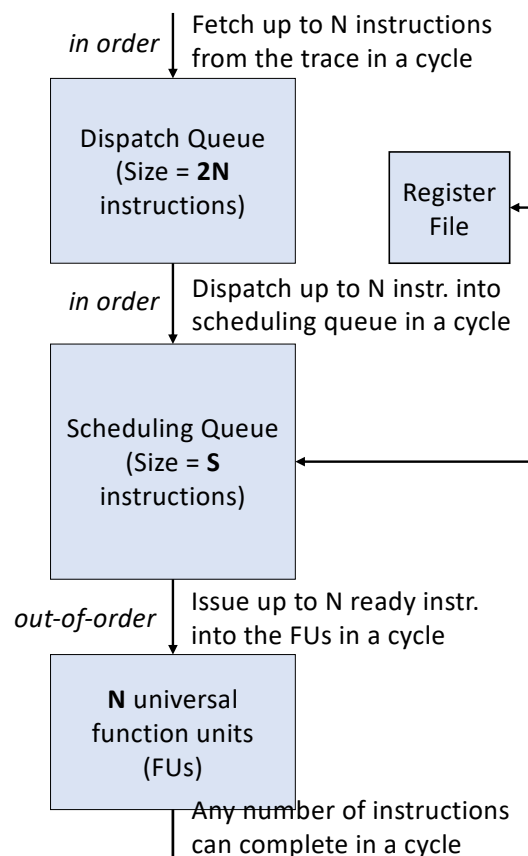

Figure 1. Overview of the superscalar microarchitecture to be modeled.
The microarchitecture is N-way superscalar. This means that up to N instructions can be fetched, dispatched, and issued each cycle, as shown in Fig. 1. However, in a given cycle, fewer than N instructions may be fetched, dispatched, or issued, due structural hazards or data dependences.
- **dispatch_list**: This contains a list of instructions in either the IF or ID state. The *dispatch_list* models the Dispatch Queue in Fig. 1. By including both the IF and ID states, we don't need to separately model the pipeline registers of the fetch and the dispatch stages.
- **issue_list**: This contains a list of instructions in the IS state (waiting for operands or available issue bandwidth). The *issue_list* models the Scheduling Queue in Fig. 1.
- **execute_list**: This contains a list of instructions in the EX state (waiting for the execution latency of the operation). The *execute_list* models the FUs in Fig. 1.